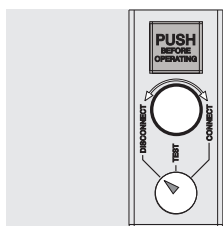

Figure 63
- circuit breaker in DISCONNECT position (see Figure 63).